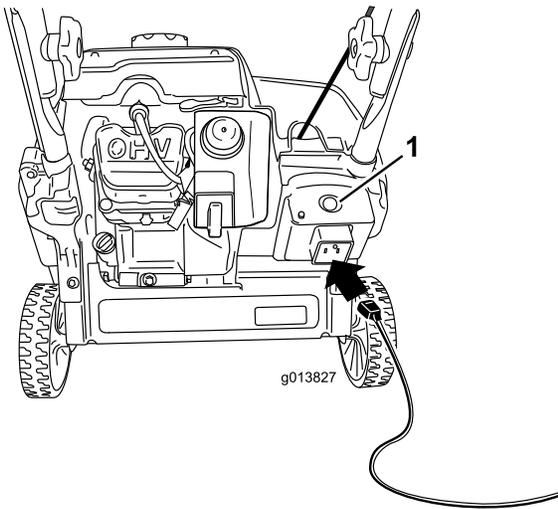
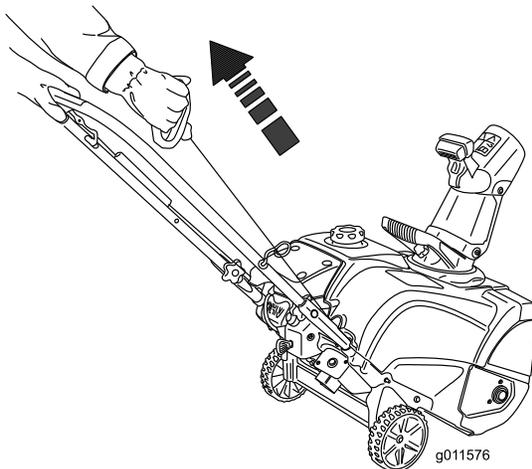

Figure 18
Figure 19
4. Connect an extension cord to a power source and the machine, and push the electric-start button (Model 38473 only) (Figure 18), or pull the recoil-start handle (Figure 19).